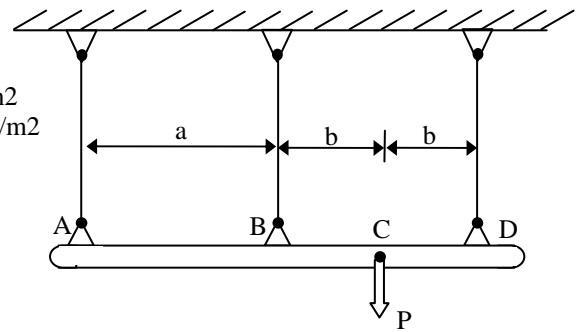

Fig. 5
7. The rigid bar ABCD is suspended from three identical wires as shown in Fig. 5. Knowing that  $a = 2b$ , determine the tension in each wire caused by the load  $P$  applied at C.